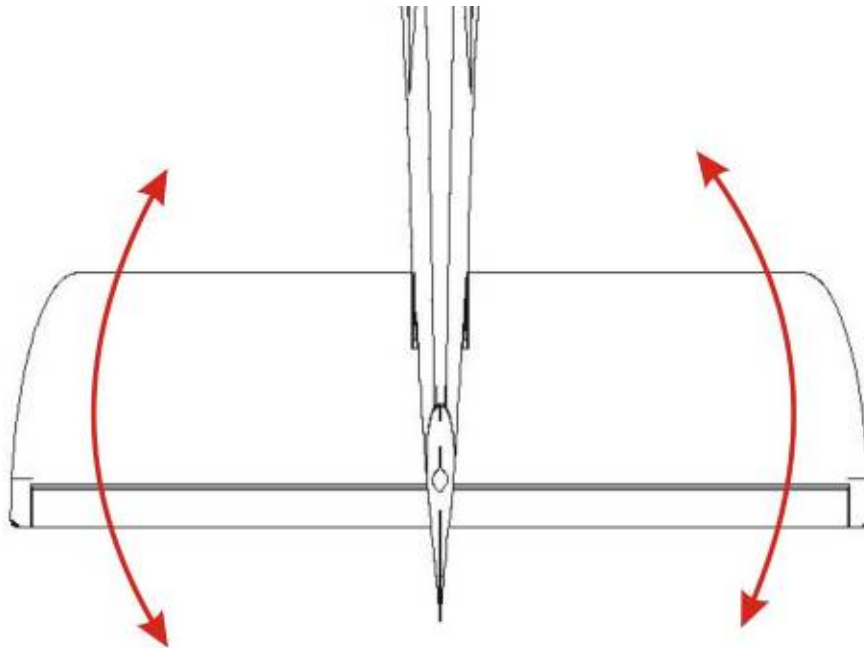

Fig. 55-20-12
B. Checking the Stabilator and Trim Tab Installation for Play (Fig. 55-20-12)
1	Shake the Stabilator in accordance with Fig. 55-20-12